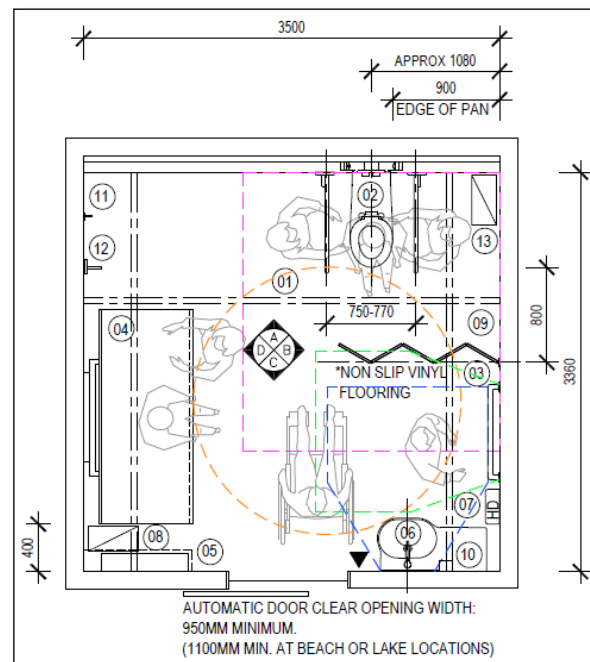

Figure 2: Type 1B (without shower)
2. **Type 1B** without a shower requires 3.5m wide x 3.36mm long room dimensions (Figure 2)